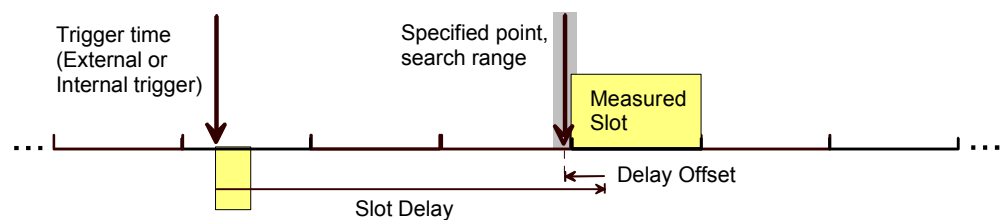

Fig. 4-80 Slot Delay and Delay Offset
- External* External trigger signal fed in via connector AUX 3 (pin 8)². The required timing information is provided by the rising or falling edge (see *Slope* setting below) of an external trigger signal to which a trigger delay can be added. The beginning of the measured slot is searched in a symmetric time range of ± 380 chips around the specified point, which is given by the trigger time plus the defined trigger delay (see Fig. 4-80 below). Compared to the *Free Run* mode, the search range is smaller so that the measurement is faster.
- Internal* Trigger provided by internal RF generator (with option CMU-K66, *WCDMA (3GPP/FDD, DL) Generator*, only), according to the frame timing of the UL signal re-transmitted by the UE under test (frame trigger). The CMU assumes a delay of 1024 chip periods between the downlink and the uplink timing (3GPP standard timing offset). The beginning of the measured slot is searched as described for the *External* trigger (exception: *Inner Loop TPC* measurement; see section *Test Scenarios for Inner Loop TPC* on p. 4.4). Again, a trigger delay can be added to the frame trigger time (see Fig. 4-80 below). In addition to the frame trigger time, a slot trigger signal at the beginning of each DL slot and a TPC trigger signal at the beginning of each TPC profile is provided.
The frame and slot trigger signals are always available while the RF generator is switched on. The TPC trigger is available while the generator transfers a TPC pattern. The trigger signals are also fed to pin 2 (frame trigger), pin 3 (slot trigger), and pin 4 (TPC trigger) of the AUX 3 connector at the front of the instrument where they can be tapped off to synchronize external devices. All trigger signals are low-pulse TTL signals with a length of $\frac{1}{4}$ slot ($166 \frac{2}{3} \mu\text{s}$); see Fig. 4-80 below.
Trigger – Slot Delay The *Slot Delay* parameter defines a delay time (integer number of slots) between the trigger time and the start of the measurement. If a frame-periodic internal or external trigger signal is available, *Slot Delay* can be used to select any slot of the frame as measured slot. An additional *Delay Offset* can be added to the *Slot Delay*; see Fig. 4-80 below.